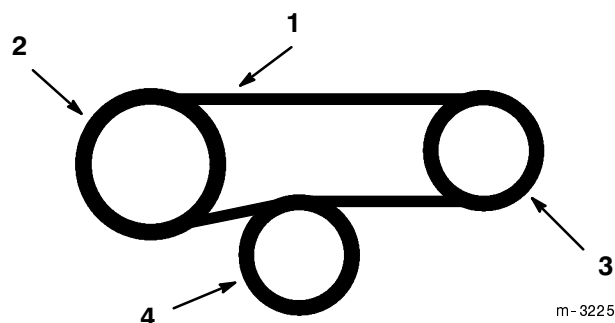

Figure 82
4. Install new PTO belts over clutch and route around gear box pulleys and above spring loaded idler (Fig. 82).